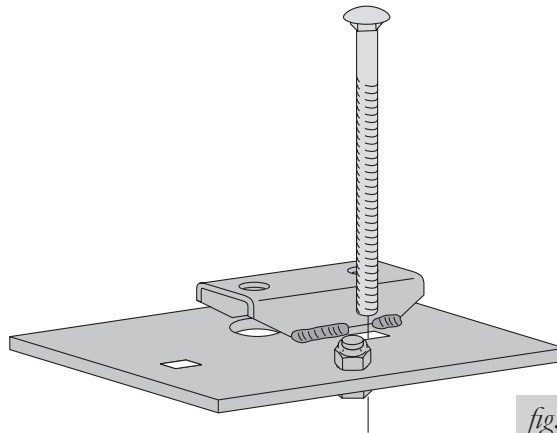

fig. 8
5. After determining and installing the appropriate stackup, insert one carriage bolt (N) into the forward hole of the lower bracket (Figure 8).